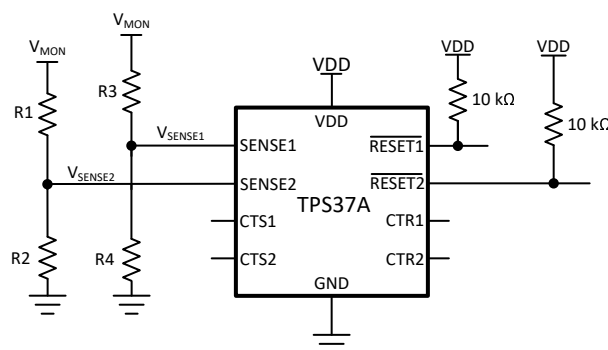

Figure 10-1. Adjustable Voltage Threshold with External Resistor Dividers
For example, consider a 12 V rail being monitored V_{MON} for undervoltage (UV) using channel 2 of the TPS37A010122DSKR variant. Using Equation 7 and shown in Figure 10-1, R_1 is the top resistor of the resistor divider that is between V_{MON} and V_{SENSE2} , R_2 is the bottom resistor that is between V_{SENSE2} and GND, V_{MON} is the voltage rail that is being monitored and V_{SENSE2} is the input threshold voltage. The monitored UV threshold, denoted as V_{MON-} , where the device will assert a reset signal occurs when $V_{SENSE2} = V_{IT-(UV)}$ or, for this example, $V_{MON-} = 10.8V$ which is 90% from 12 V. Using Equation 7 and assuming $R_2 = 10k\Omega$, R_1 can be calculated shown in Equation 8 where I_{R1} is represented in Equation 9: